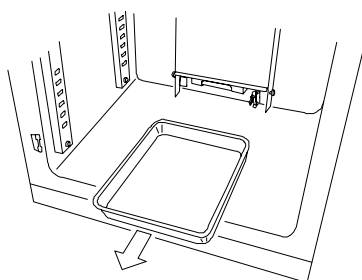

Fig. 4
6. Take out the humidifying pan. See Fig. 4